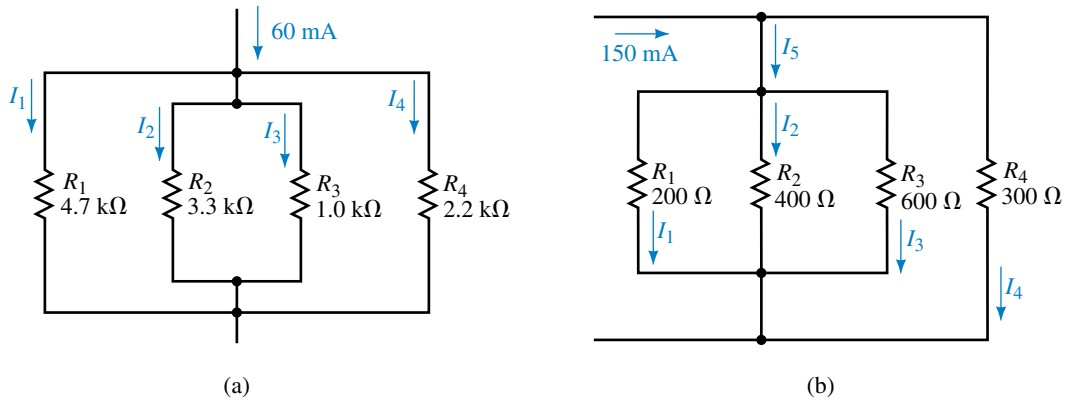

FIGURE 6-76
31. Use the current divider rule to determine all unknown currents for the networks of Figure 6-76.